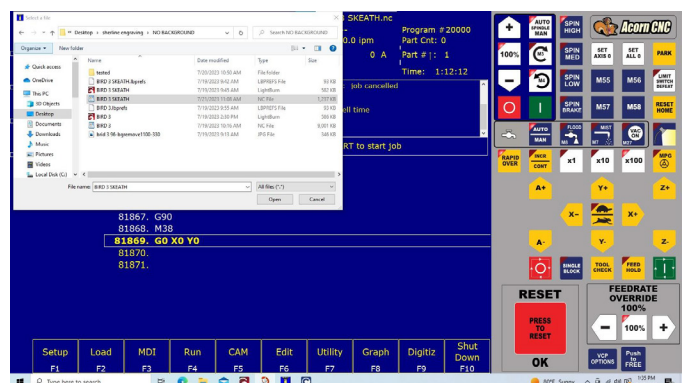

FIGURE 16
2. Load the program: Click on Load (F2). Then go to where you have your program and select it and click on open (see Figure 16).